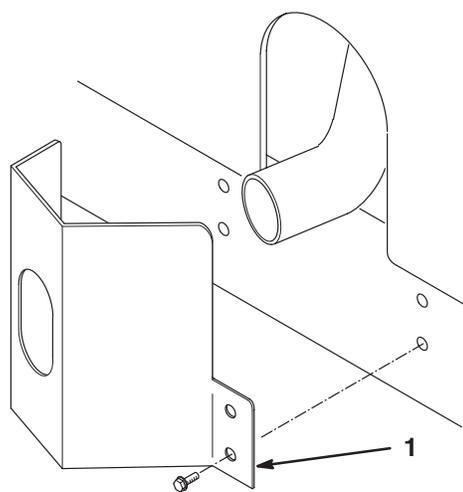

Figure 5
- Position the exhaust guard around the muffler while aligning the mounting holes with the holes in the frame (Fig. 5).
- Secure the exhaust guard to the frame with 4 self-tapping screws (Fig. 5).